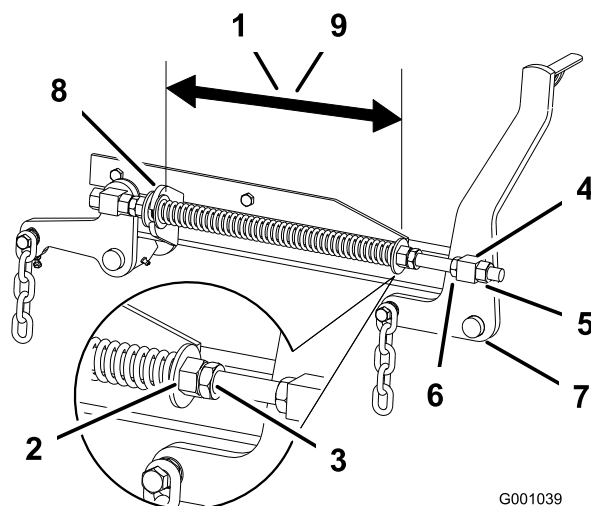

Figure 79
- Check the distance between the two large washers, it needs to be 10-1/2 inches (26.7 cm) for 60 inch mower decks or 11-1/2 inches (29.2 cm) for 72 inch mower decks (Figure 79).
- Adjust this distance, by loosening the spring jam nut and turning the nut in front of each spring (Figure 79). Turning the nut clockwise will shorten the spring; counter-clockwise will lengthen the spring.
- Lock the nut into position by tightening the spring jam nut (Figure 79).